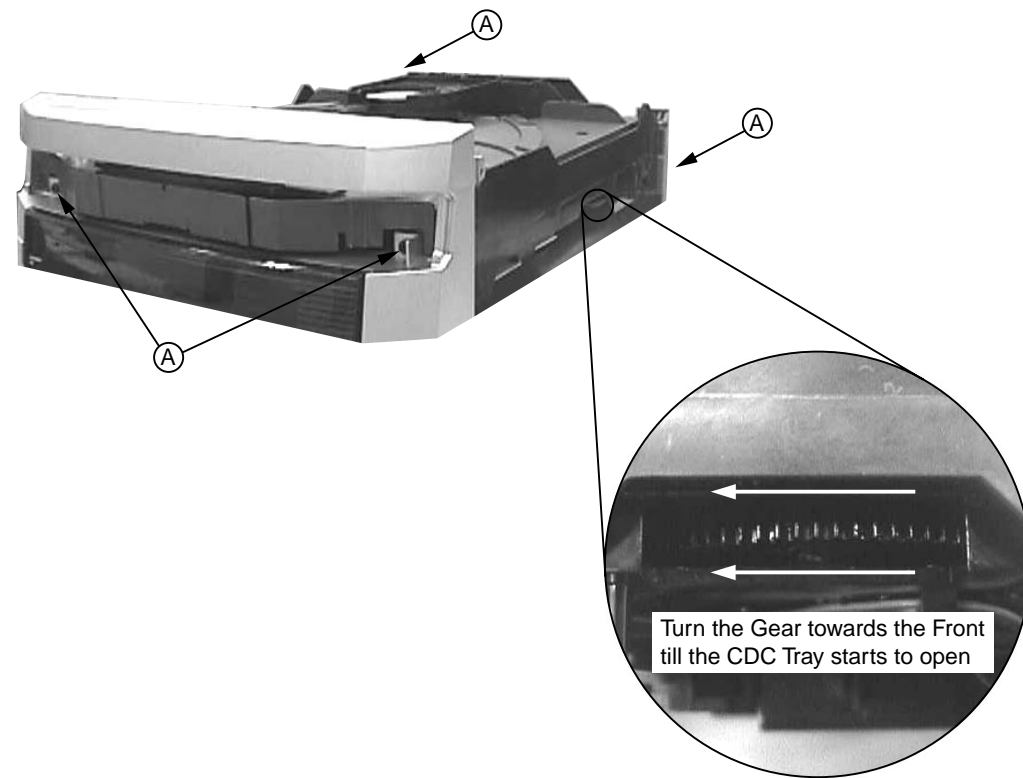

Figure 1
- 5) Loosen 4 screws A to remove the CDC Module (pos 28) as shown in figure 1.